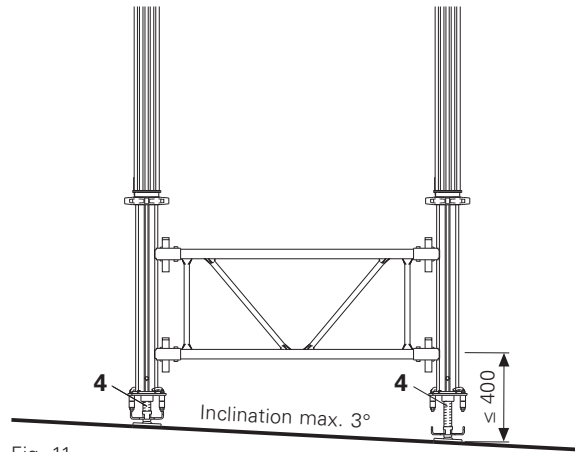

Fig. 11
The Tilting Base MKF (4) with the quick-action clamp coupling can be pivoted on all sides up to 3°. This means that MULTIPROP props can be positioned on inclined surfaces. (Fig. 11)